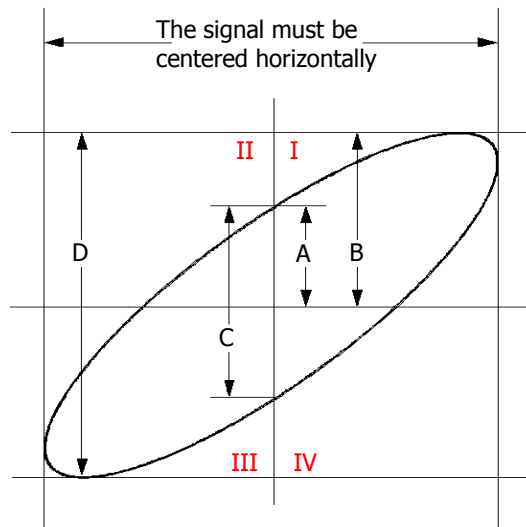

Figure 3-2 Measurement Schematic Diagram of Phase Deviation
5. Observe the measurement result shown in the figure above. According to the measurement schematic diagram of the phase deviation (as shown in Figure 3-2), A/B (C/D) = 1. Thus, the phase deviation angle $\theta=\pm\arcsin 1=90^\circ$.